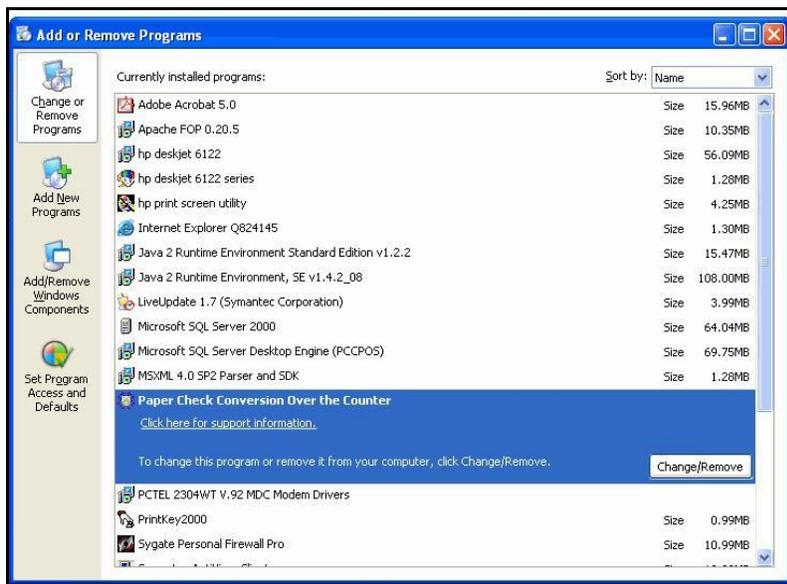

Figure 2.15
1. Click to highlight **'Paper Check Conversion Over the Counter'** then click on **'Change/Remove'**. (Figure 2.15)